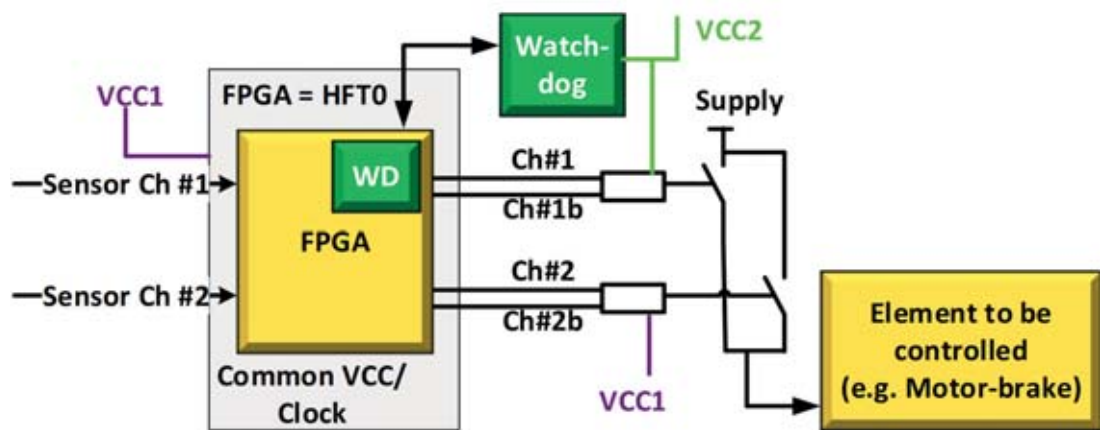

Figure 2: Example setup to achieve HFT=1 with FPGA
- Hardware configuration: Microchip specifies the FPGA configuration to remain intact for at least 20 years, including immunity against SEUs. This enables permanent operation without the need to account for occasional resets. Only user logic state can be affected by single-event faults and therefore needs protection. For higher safety levels, an independent external watchdog can be added. Single faults can thus be detected and reported to a higher system level (Figure 2).